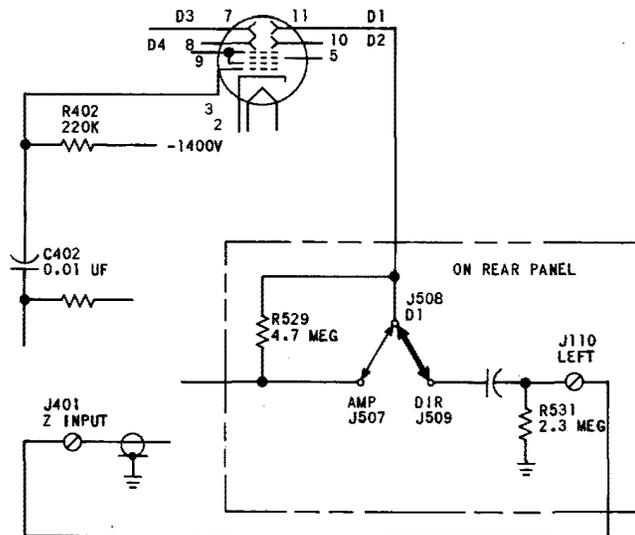

Fig. 1—Modifications for the Dumont Type 304-A or 304-AR Oscilloscope for Use in Antenna Return Loss Test
Note: If it is desirable to photograph the ripples obtained on the oscilloscope, the Dumont oscilloscope is more convenient for taking photographs than the KS-15586 oscilloscope on the J68345A test set because it has an illuminated scale, which is easier to read and shows well on the photographs. Its use requires only a very simple modification to blank out the retrace, as shown by the heavy lines in Fig. 1. The change can be made very quickly, on a temporary basis, and the oscilloscope returned to its normal condition after use. The only material required is a length of hookup wire. The Dumont oscilloscope can be connected in parallel with the oscilloscope on the 45A test set by making up a multiple patchboard
- 13 Make the modifications shown by the heavy lines in Fig. 1. The only material required is a length of hookup wire.